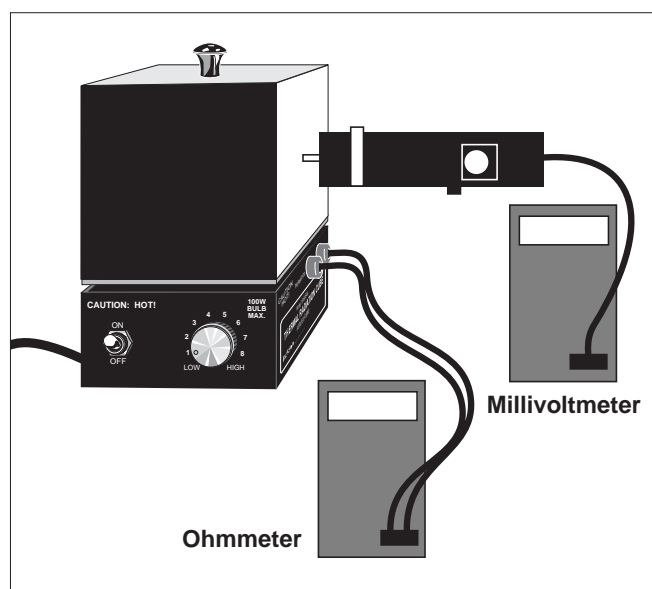

Figure 1.1 Equipment Setup
- ① Connect the Ohmmeter and Millivoltmeter as shown in Figure 1.1.
- ② Turn on the Thermal Radiation Cube and set the power switch to “HIGH”. Keep an eye on the ohmmeter reading. When it gets down to about 40 k Ω , reset the power switch to 5.0. (If the cube is preheated, just set the switch to 5.0.)
- ③ When the cube reaches thermal equilibrium—the ohmmeter reading will fluctuate around a relatively fixed value—use the Radiation Sensor to measure the radiation emitted from each of the four surfaces of the cube. Place the Sensor so that the posts on its end are in contact with the cube surface (this ensures that the distance of the measurement is the same for all surfaces). Record your measurements in the appropriate table on the following page. Also measure and record the resistance of the thermistor. Use the table on the base of the cube to determine the corresponding temperature.
- ④ Increase the power switch setting, first to 6.5, then to 8.0, then to “HIGH”. At each setting, wait for the cube to reach thermal equilibrium, then repeat the measurements of step 1 and record your results in the appropriate table.